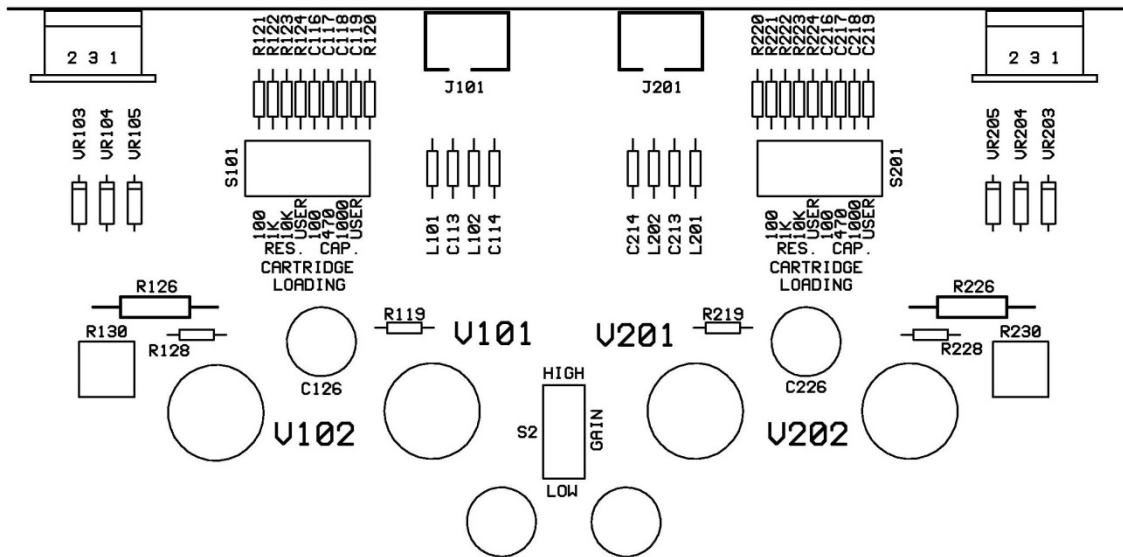

Figure 1
**Figure 1** depicts the locations of the VK-P6SE internal configuration switches. These include: